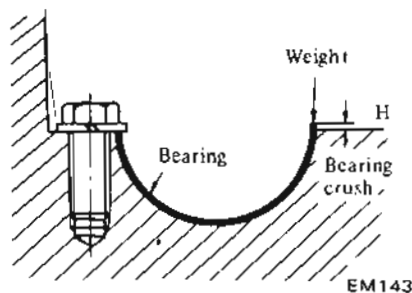

Fig. EM-70 Checking bearing crush
- Then, measure bearing crush "H" with a feeler gauge. See Figure EM-70. The standard bearing crush value is listed below.